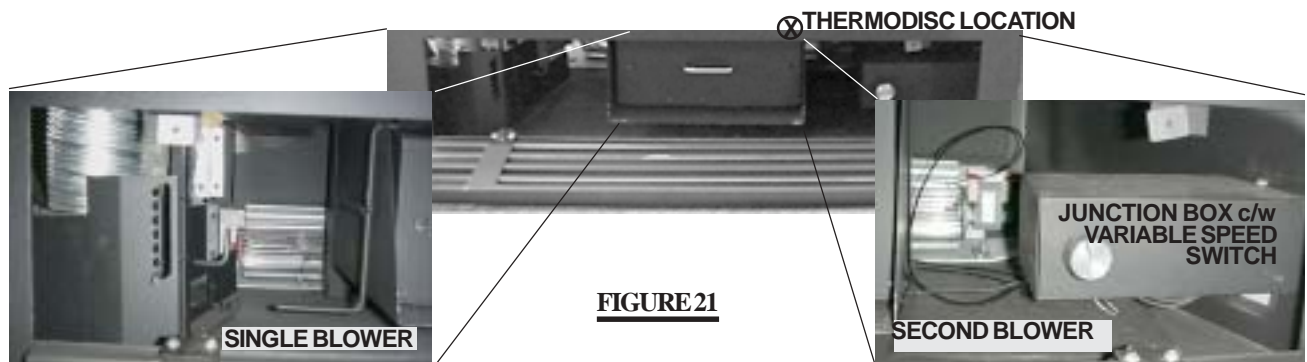

FIGURE 21
5. Pass the two blower leads and one thermidisc lead through the junction box bushing. The thermidisc is located inside the outer shell, just above the louvre door. **FIGURE 21.** Connect one blower lead to the thermidisc lead using a nut connector and the other blower lead to the white power supply wire using a nut connector.